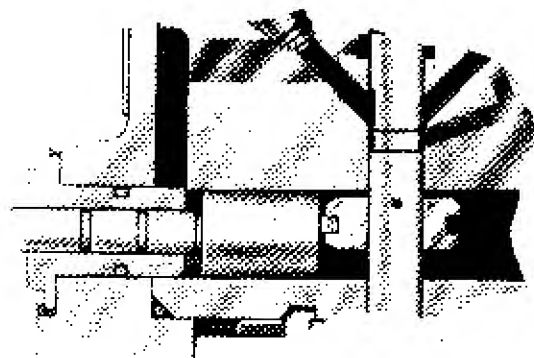

FIGURE 3-24. MAXIMUM DELIVERY
**Maximum Delivery:** For maximum delivery (Figure 3-24), the control shaft must position the sleeve fully upward. This increases the fuel delivery time and volume because the spill port doesn't clear the sleeve until a higher portion of the pumping stroke is reached. All engine speed and power control is determined by the governor acting through the control shaft and metering sleeve.